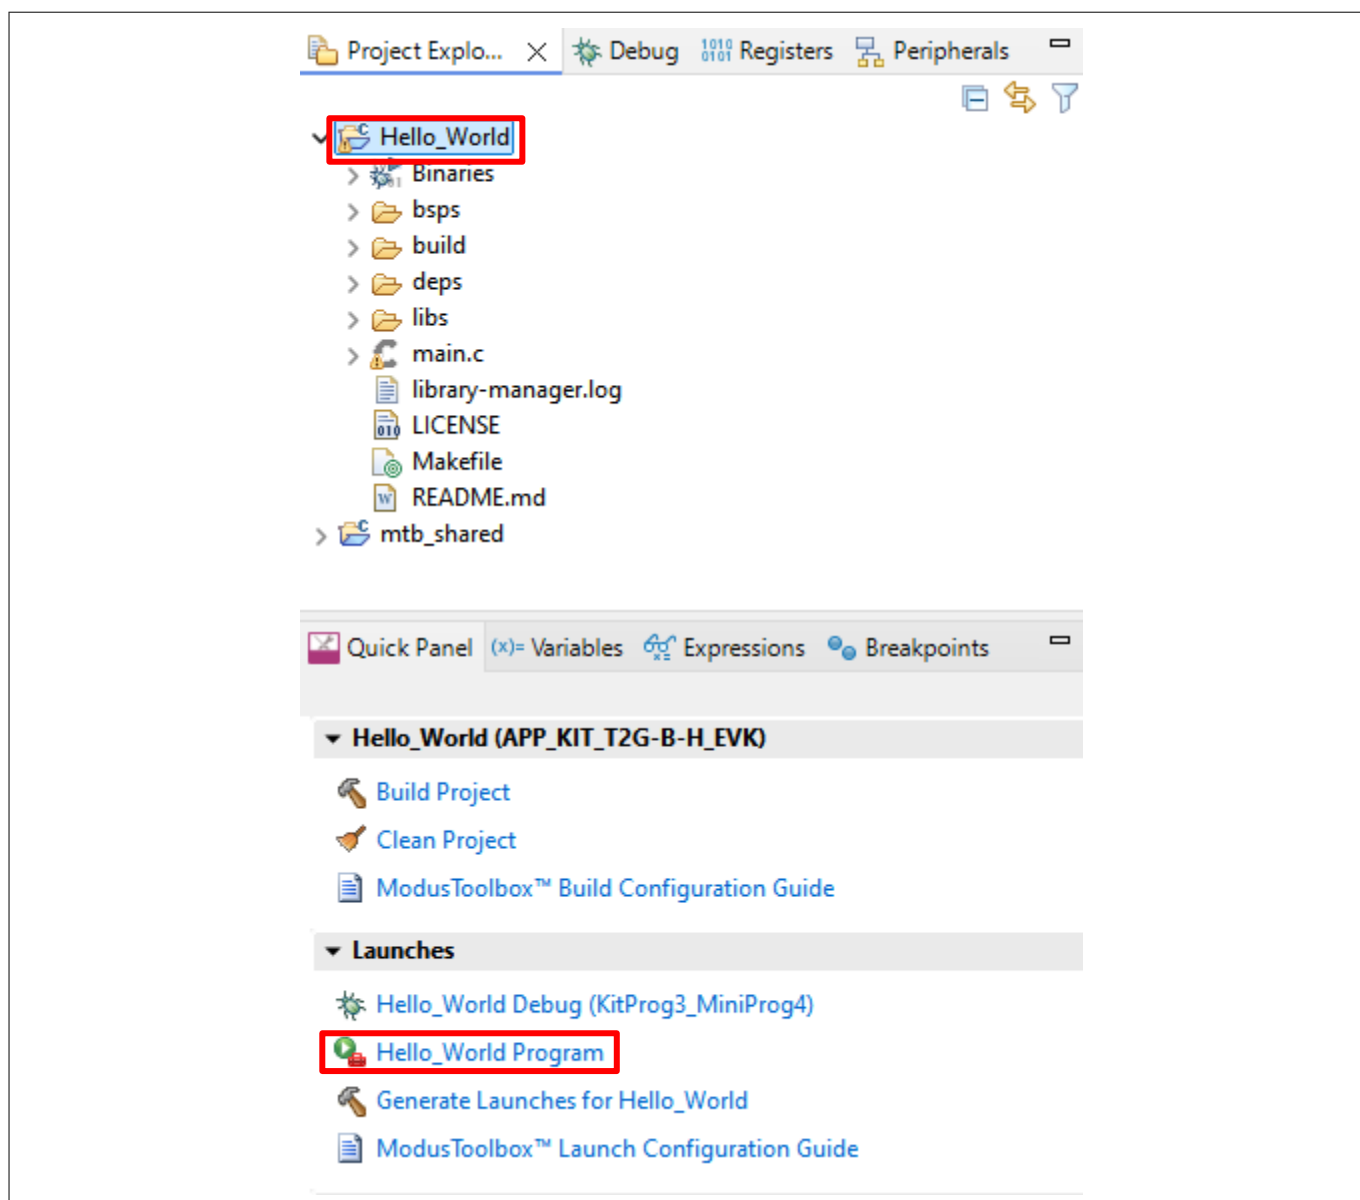

Figure 17 +Programming an application to a deviceConsole – programming results
3. Select the application project and click on the **<application name> Program (KitProg3_MiniProg4)** shortcut under the **Launches** group in the Quick Panel, as Figure 17 shows. The IDE will select and run the appropriate run configuration. Note that this step will also perform a build if any files have been modified since the last build